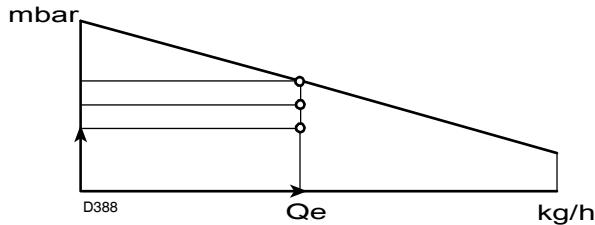

Fig. 4
- In the firing rate range of the burner, (Fig. 4), indicate the work point defined by:
- Trace a vertical line from point A, (Fig. 4), and find the maximum pressure H2 of the firing rate.
If H3 is greater than H1, as in (Fig. 4), the burner can produce the delivery requested.